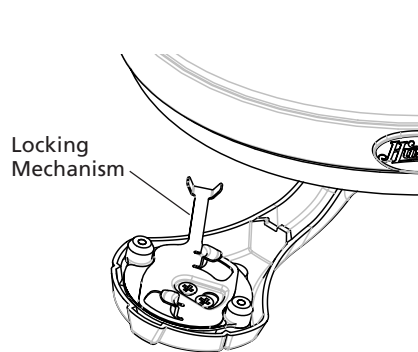

Figure 7a - Opening blade iron locking mechanism
1. Open the locking mechanism as shown in Figure 7a.